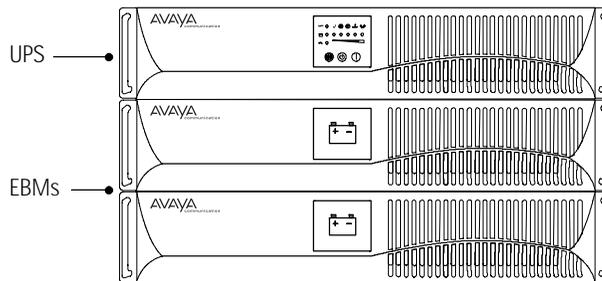

Figure 2. Rack-Mount UPS with EBMs
**NOTE** The EBMs must be installed below the UPS as shown in Figure 2.